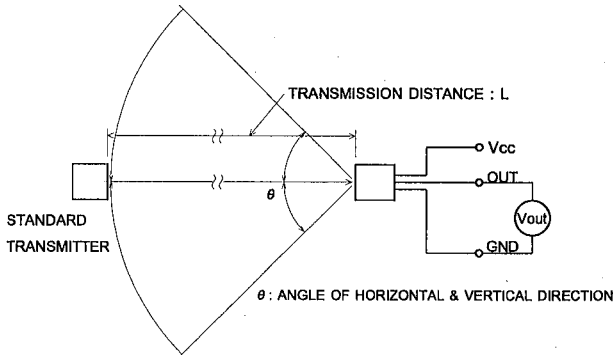

Fig. 3 TEST SYSTEM
### (2) Test system: Shown in Fig.3.